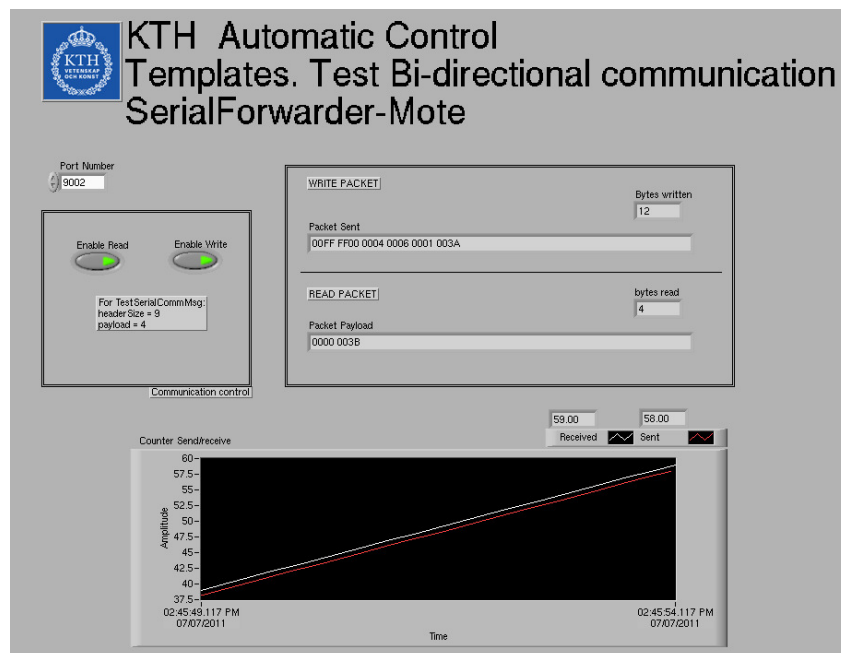
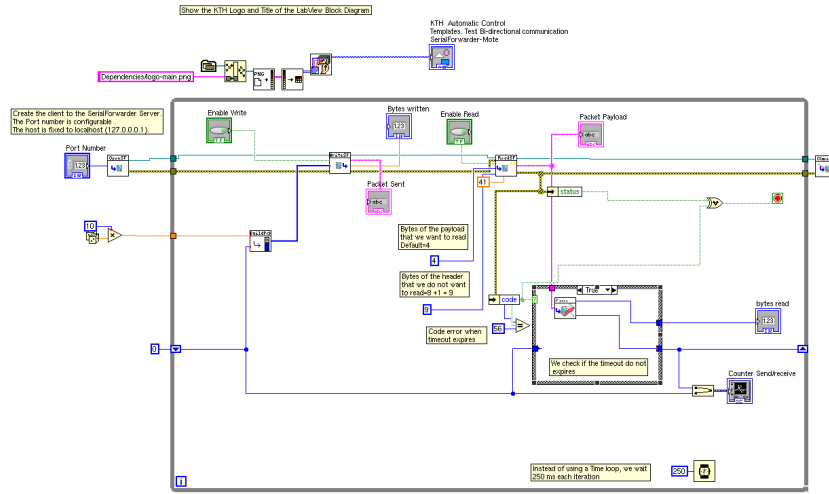

Figure 2.8: Front panel TestMoteComm
Figure 2.9: Block diagram of TestMoteComm
**PC: TestMoteComm.vi** Figure 2.8 shows the front panel of the Vi that reads/writes in the serial port periodically. We can see the raw data of the packet sent to the mote, and the payload data of the packet received from the mote. At the bottom, we have a chart that shows the difference between the received and sent value. As we see in Figure 2.9, in the LabView we do not modify the counter value, we just forward the information.
Figure 2.9 shows the block diagram of the `TestMoteComm` vi. In this example we have added another variation compared to the previous one. In this case the timeout is not set